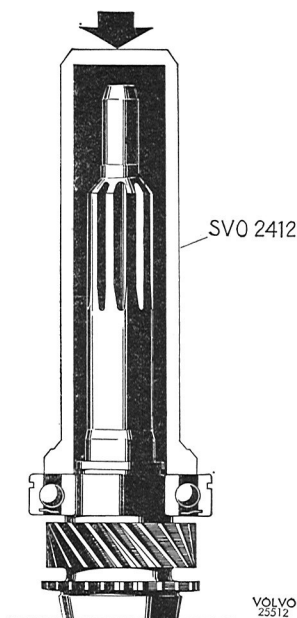

Fig. 4-39. Installation ball bearing on input shaft
4. Press the bearing onto the input shaft, using drift 2412, see Fig. 4-39. Select a snap ring of suitable thickness and install it. Place the 14 bearing rollers for the main shaft in position in the input shaft. Use grease to hold the rollers in place. Press the input shaft into position in the housing. Press the oil seal into the cover with drift 2867. Then install the cover over the input shaft. Do not forget the O-rings for the bolts.